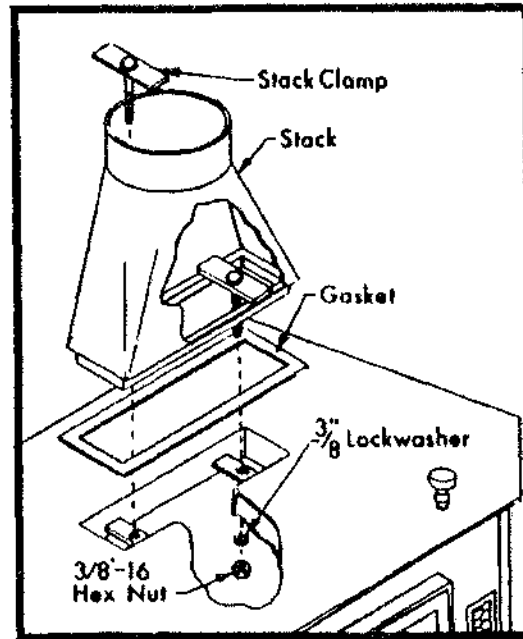

FIGURE 6 MOUNTING STACK
8. Attach the stack by placing the stack brackets down on the lip on the inside lower edge of the stack. Insert the bolts through the holes in the damper brackets and fasten securely with the lock washers and nuts provided. Be sure the stack sits squarely on the top of the stove with the gasket material making a good seal. (See Figure 6.)